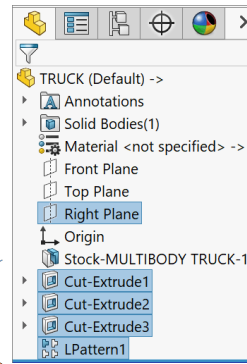

Fig. 18
Step 1. **Ctrl click Right Plane**  and all 4 features in the Feature Manager to select plane and features, **Fig. 18.**